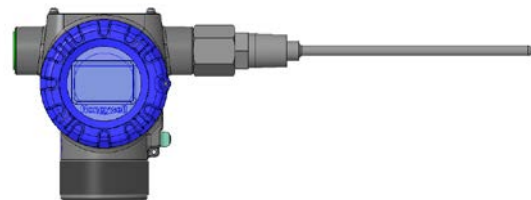

Figure 1: Transmitter with Rigid Probe
- Rigid probe assembly without thermowell (Figure 1)